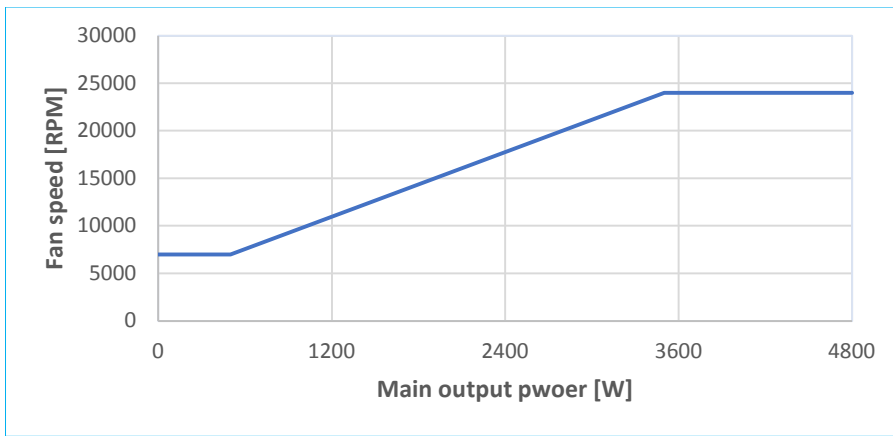

Figure 9. Fan speed versus main output power
- Load depending Fan Speed curve, see *Figure 9*. This curve is in use at nominal conditions.